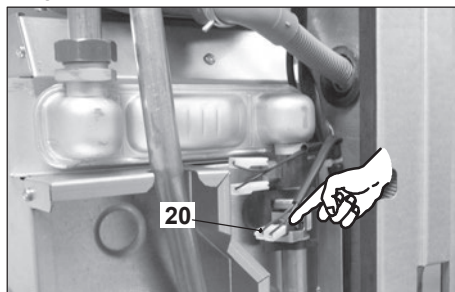

Fig. 8.3
- Disconnect the electrical connectors of the C.H. temperature probe NTC 20 in Fig. 8.3
- Connect the electrical connectors of the C.H. temperature probe NTC 20 in Fig. 8.3.